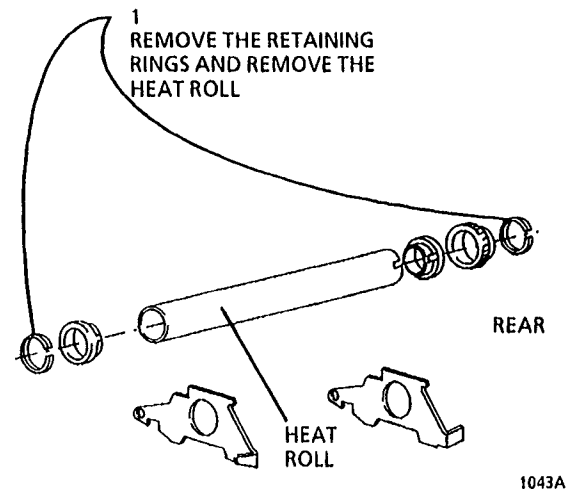

Figure 2. Removing the Heat Roll
7. (Figure 2): Remove the heat roll.